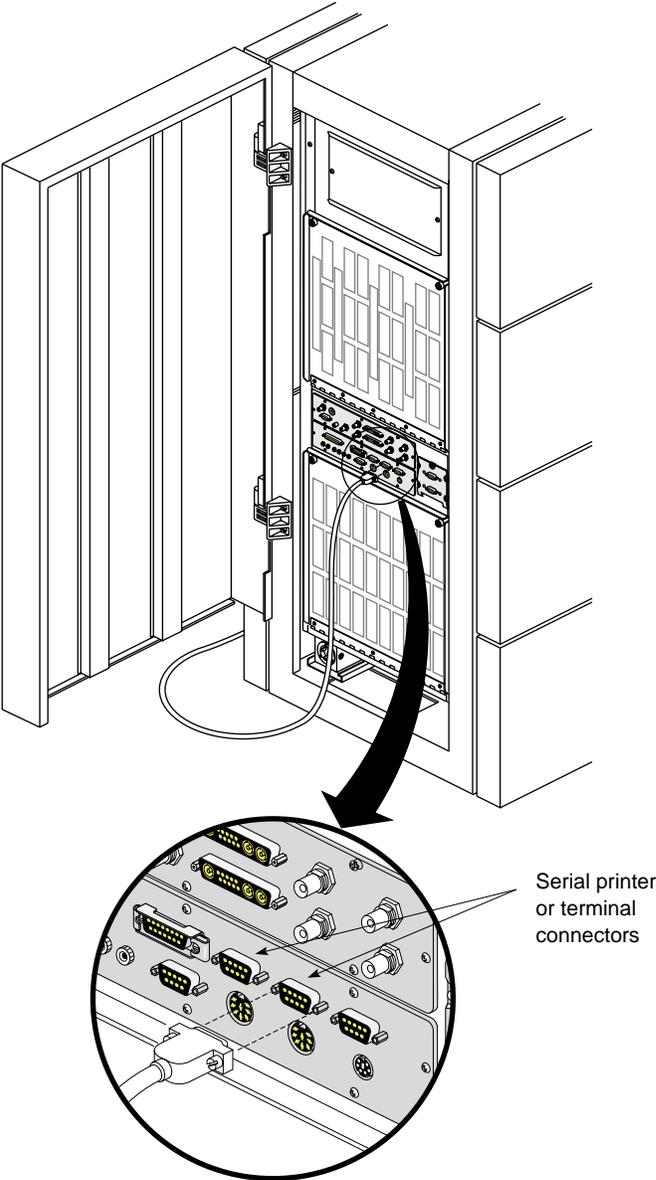

Figure 4-7 Connecting a Serial Printer or ASCII Terminal
4. Attach the free end of the printer or terminal cable to one of the serial connectors on the main I/O panel, as shown in Figure 4-7.
4. Attach the connector on the other end of the cable to one of the 9-pin serial connectors on the main I/O panel (refer to Figure 4-7).